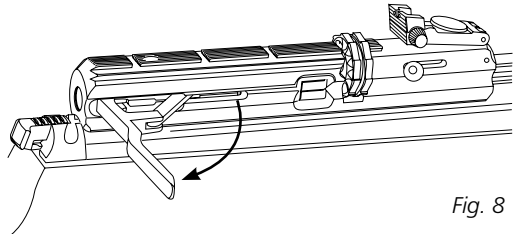

Fig. 8
2. To remove the magazine, pull the cocking lever back until it locks, then push the magazine-release bolt forward. Remove the magazine by pulling it to the right. (Figs. 8 & 9).